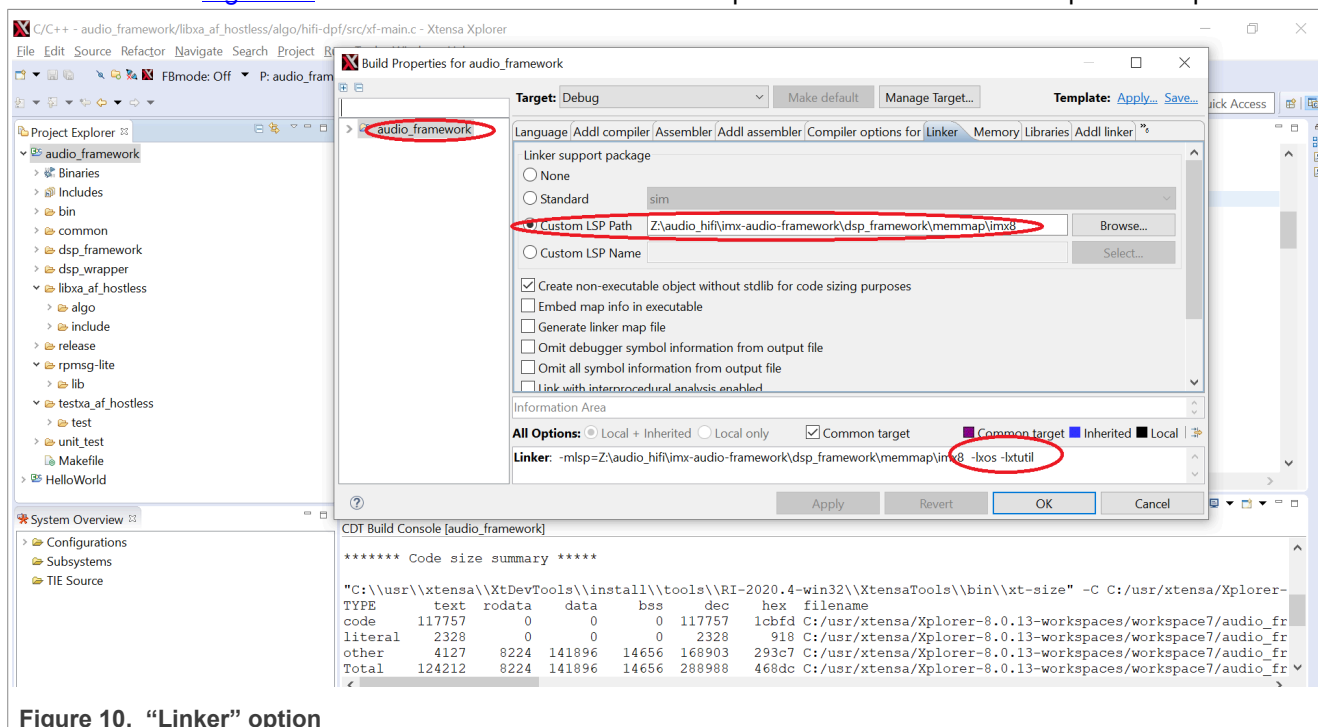

Figure 10. “Linker” option
4. as shown in Figure 10. Click the “OK” button to finish this process. The “-lxs -lxtutil” option is required.